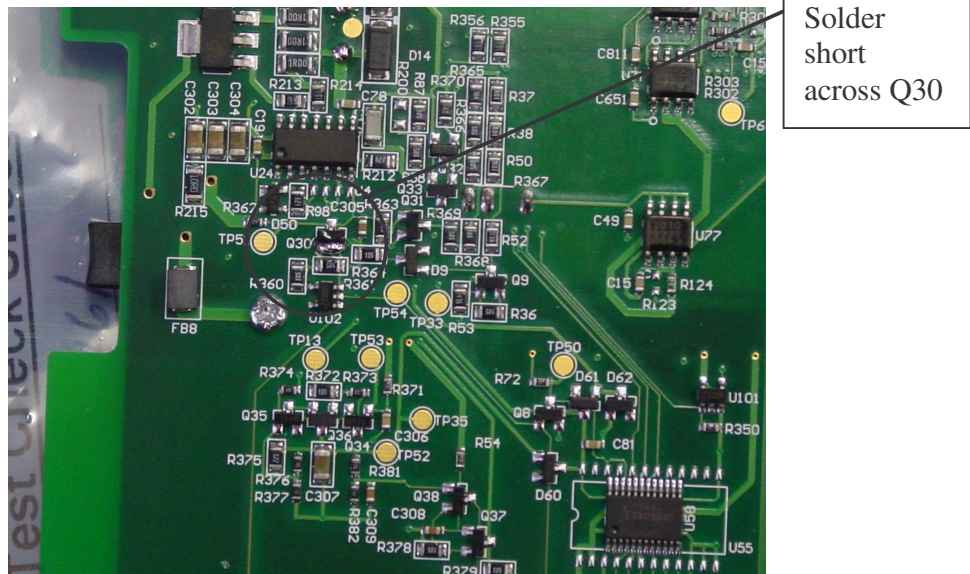

Figure 22 - Solder short Q30
b) Solder a "short" across the transistor Q30 as shown in Figure 22